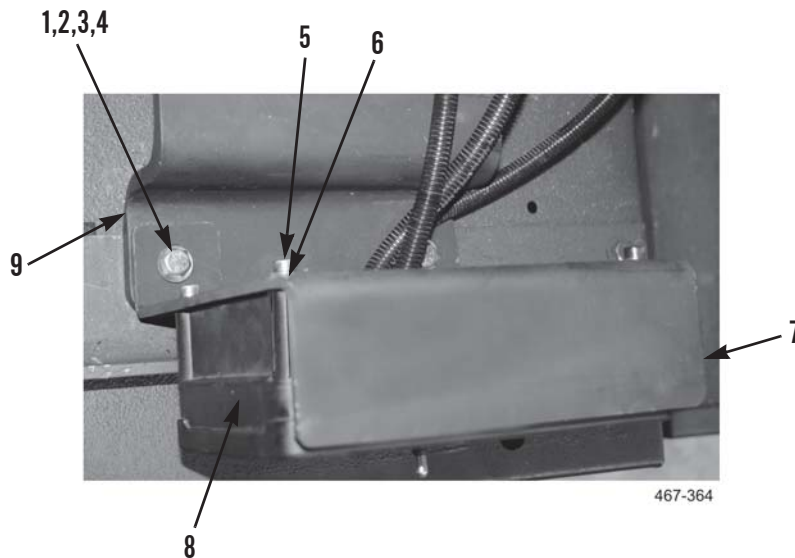

Figure 2. HEMTT Stowage Control Unit Removal.
1. Remove two locknuts (Figure 2, Item 4), washers (Figure 2, Item 3), bolts (Figure 2, Item 1), washers (Figure 2, Item 2), and stowage control unit bracket (Figure 2, Item 7) from hydraulic control bracket (Figure 2, Item 9). Discard locknuts.
2. Remove four bolts (Figure 2, Item 5), washers (Figure 2, Item 6), and stowage control unit (Figure 2, Item 8) from stowage control unit bracket (Figure 2, Item 7).